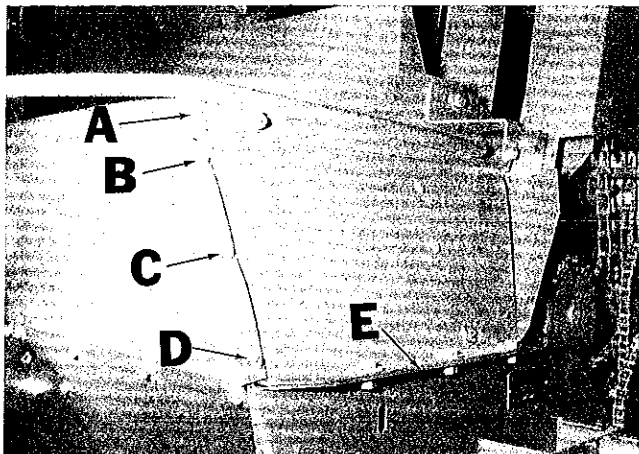
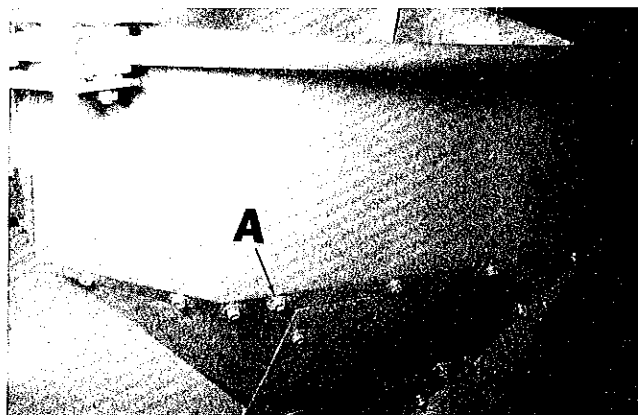

Figure 7 — Right Hopper Side
Figure 10 — Hopper
13. Attach top right hopper side portion, Item 23, page 17, to sheller unit with 3 each $\frac{3}{8}$ x $\frac{3}{4}$ hex head cap screw, flat washer, lock washer and hex nuts. Keep outer edge of hopper side flush with outer edge of sheller housing, Point E, Figure 7.
Also install to front mill throat at Point A, Figure 7, one $\frac{3}{8}$ x 1 slotted truss head screw, flat washer, lock washer and hex nut. Install at Point B, Figure 7, one $\frac{3}{8}$ x $1\frac{1}{2}$ hex cap screw, (4) flat washers, one lock washer and hex nut. Use two of the flat washers between Items 23 and 30, page 17, and one flat washer on each side at Point B, Figure 7.
16. Attach top left and front hopper portion, Item 22, page 17, to sheller housing and rear mill throat. This section uses (1) $\frac{1}{4}$ x $\frac{3}{4}$ slotted truss head screw at Point A, Figure 10, (10) $\frac{1}{4}$ x $\frac{1}{2}$ slotted truss screws in the remaining holes. Also use (4) $\frac{1}{4}$ flat washers at Points A, B, C and D, Figure 7, and (11) $\frac{1}{4}$ lock washers and (11) $\frac{1}{4}$ hex nuts.